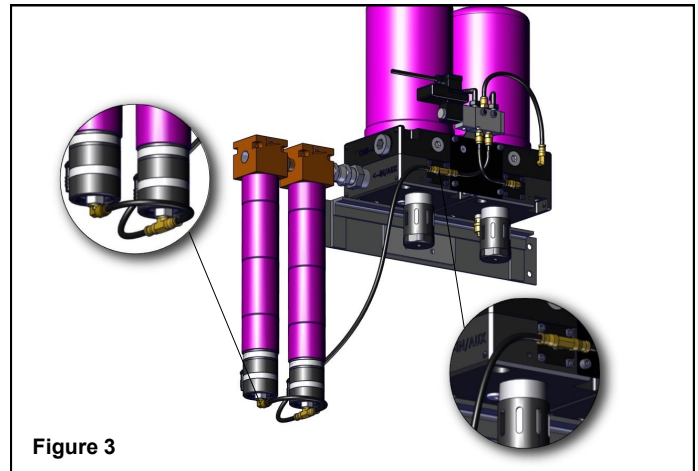

Figure 3
9. (21999-1010-MM MODELS ONLY) Use provided black nylon tubing to connect Moisture Minder® Filter Drains to "T" fitting located on dryer housing. Excess tubing can be cut to length. *Figure 3*